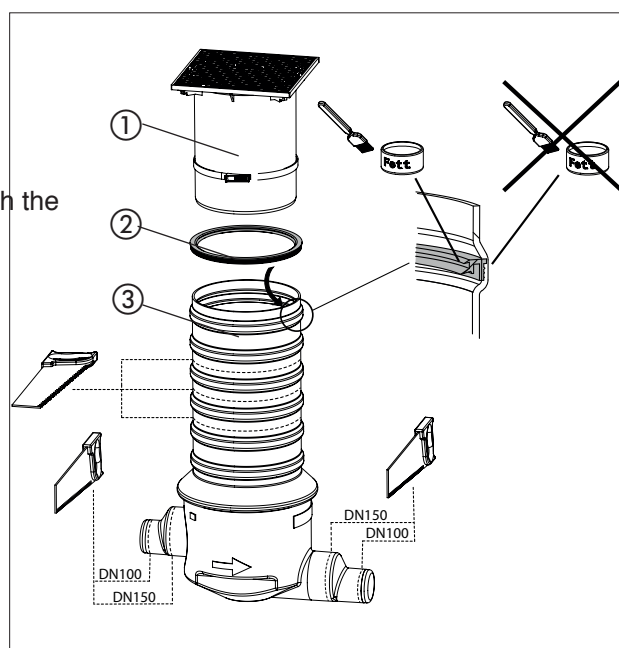

Fig. 2
- Insert the lip seal in the groove, the lips have to be facing downwards (see section enlargement in the Fig. 2).
- ① Attachment piece
- ② Lip seal
- ③ Tank wall